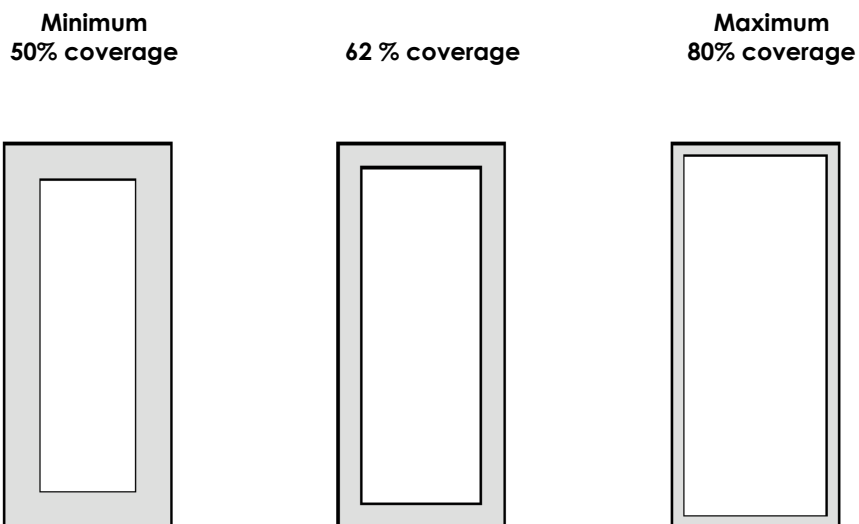

Figure 12: Solder paste application on pins
4. The aperture opening for the signal pads should be between 50-80% of the QFN pad area as shown in Figure 12.